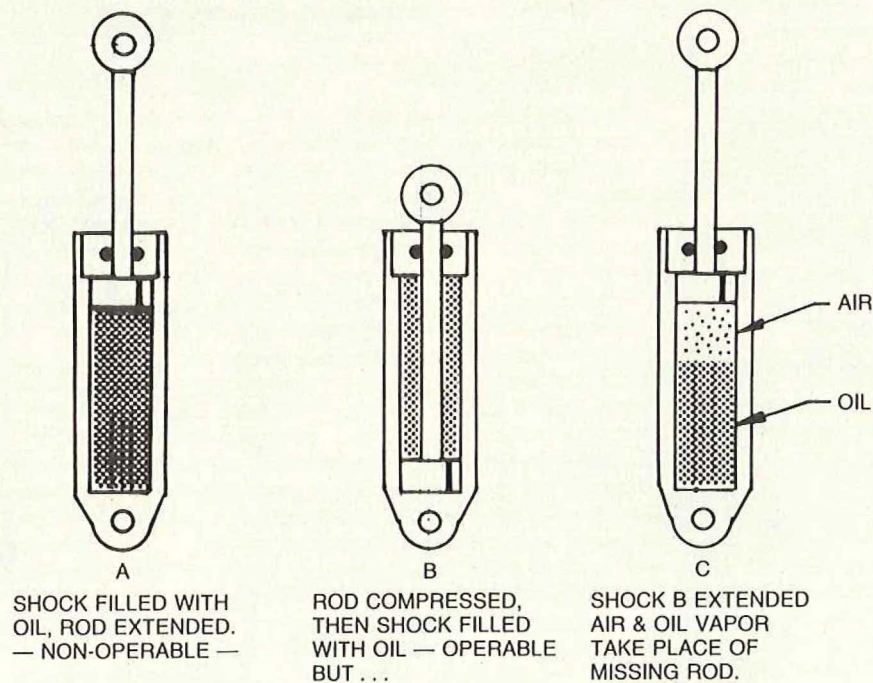

FIGURE 2
**What is the biggest problem in designing an R/C car shock absorber?** After studying full sized shock absorbers it was apparent that they could not simply be scaled down without the price escalating out of sight. To take the check valves, O-rings, and orifices found in 1¼" full size shocks and squeeze them into a package of 5/16" diameter simply did not appear practical. A real breakthrough was required which would operate in this subminiature size. The biggest problem came from trying to solve a very basic characteristic of the hydraulic shock cylinder, oil and rod. **It is necessary to understand this fact:** As a piston rod enters a hydraulic cylinder, a certain volume of oil must go somewhere to make room for the rod itself. Additionally, as the rod leaves the cylinder, it will leave behind a volume that must now be filled with oil. Refer to Figure 2 for illustrations of this problem.